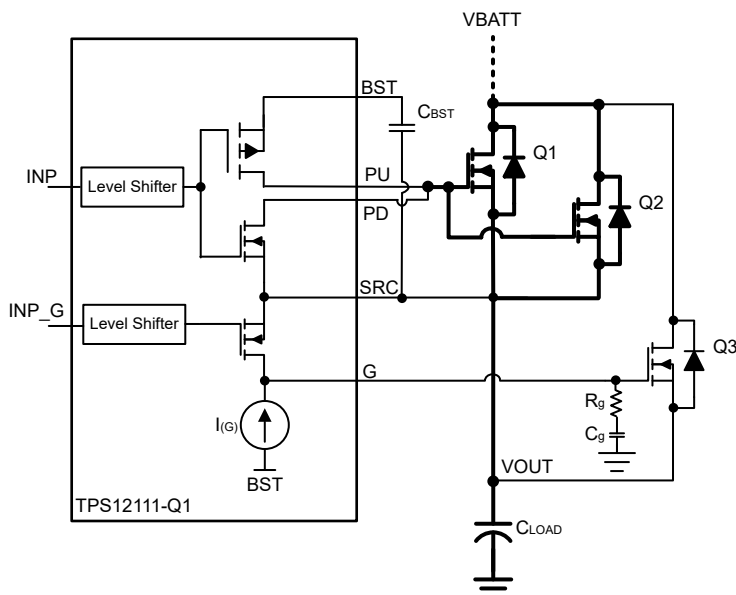

图 9-7. Capacitor Charging Using Gate Slew Rate Control of Precharge FET
The TPS1211-Q1 integrates precharge gate driver (G) with a dedicated control input (INP\_G). This feature can be used to drive a separate FET that can be used to precharge the capacitive load. 图 9-7 shows the precharge FET implementation for capacitive load charging using TPS1211-Q1. An external capacitor  $C_g$  reduces the gate turn-ON slew rate and controls the inrush current.